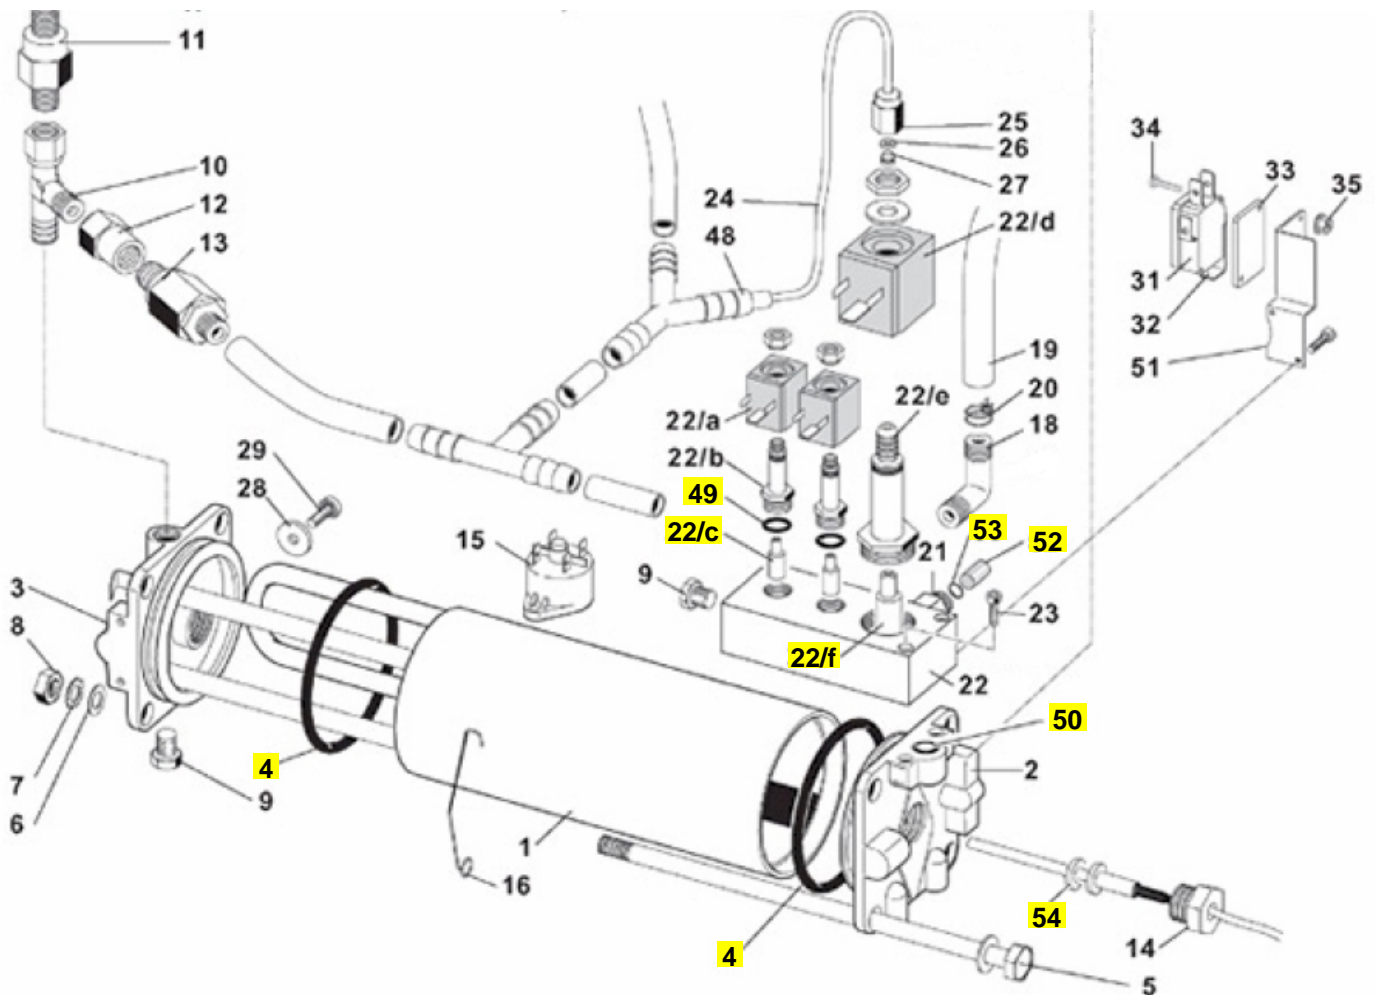

Fig. 15
12. The following parts should be renewed during reassembly, refer to fig. 15 to identify the parts: